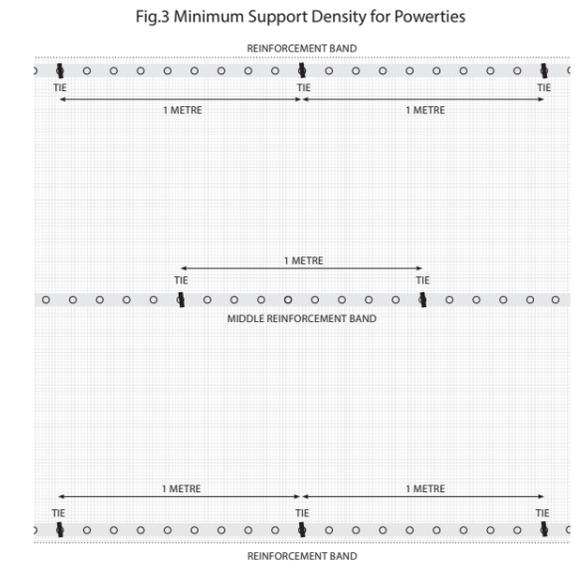

Fig.3 Minimum Support Density for Powerties
- c) A **MINIMUM** support density of **one (1) Powertie per square metre** of sheeting is recommended. See Fig. 3.